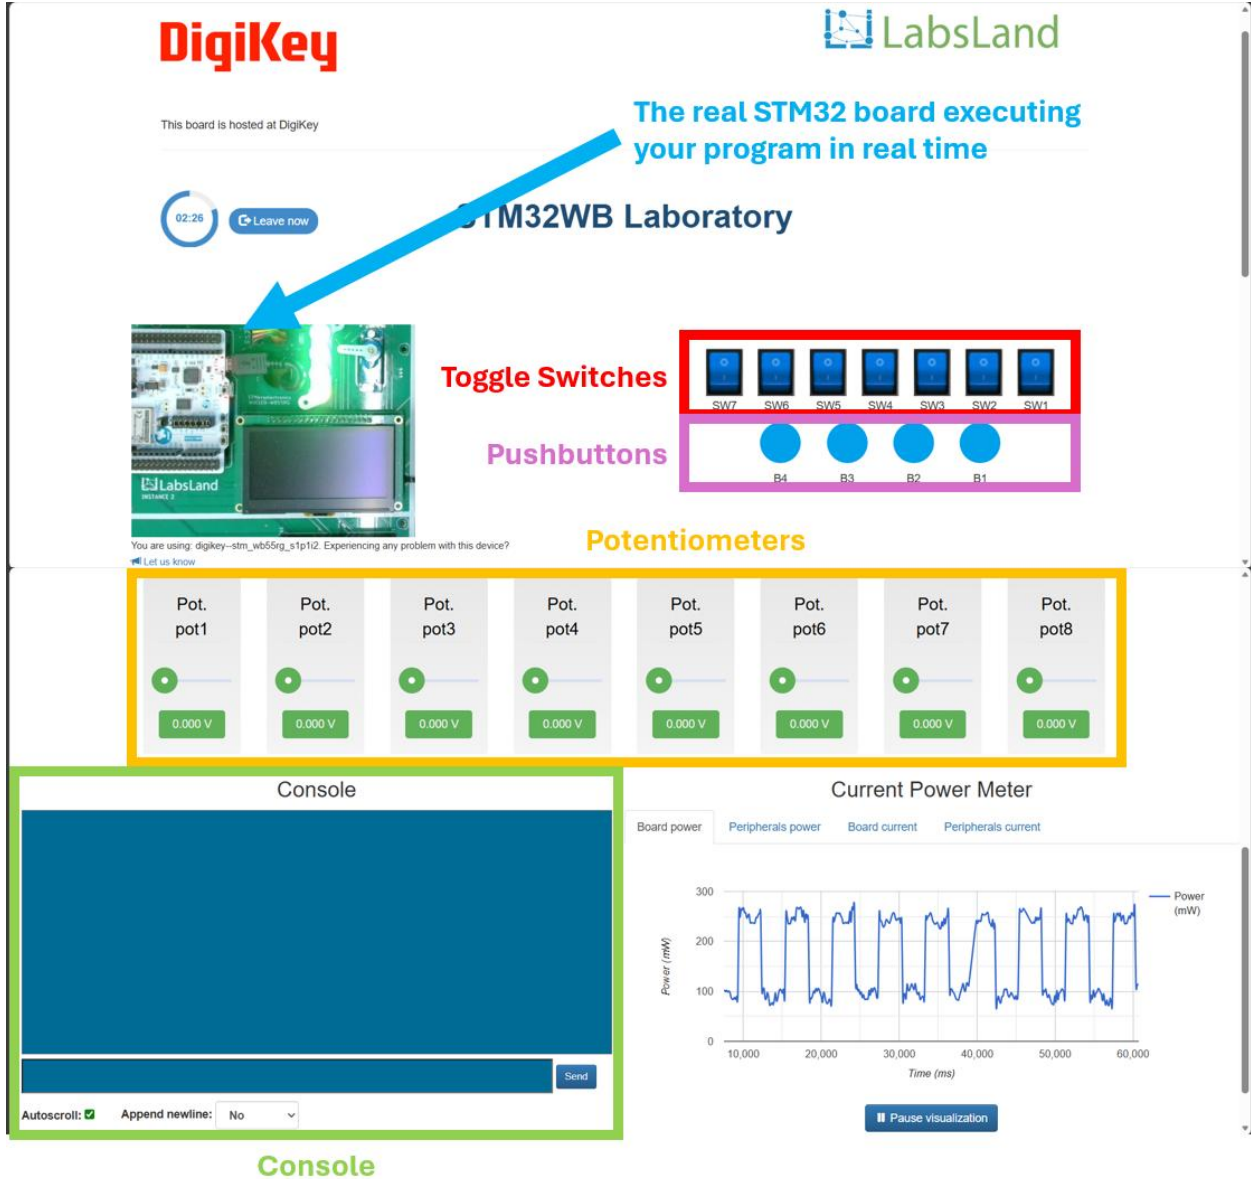

Figure 7
- Figure 7 shows the remote lab after a program is uploaded. Important sections (toggle switches, pushbuttons, potentiometers, and console window) are highlighted.